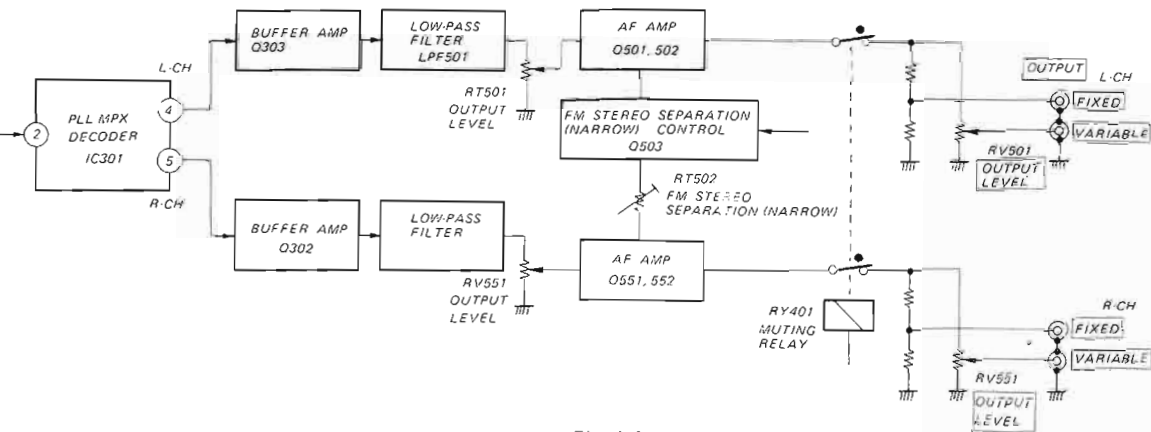

Fig. 1-4
3. Stereo Decoder and AF Amplifier Stages (See Fig. 1-4)